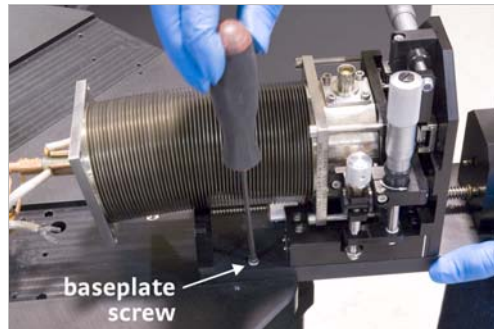

FIGURE 5-11 *Secure the micro-manipulated stage to its holding location*
- Slide the stage back, and use the 3 mm hex driver to secure the stage to its holding location with two M4 screws (FIGURE 5-11). This is an optional step, and is given to provide you with a convenient work space.